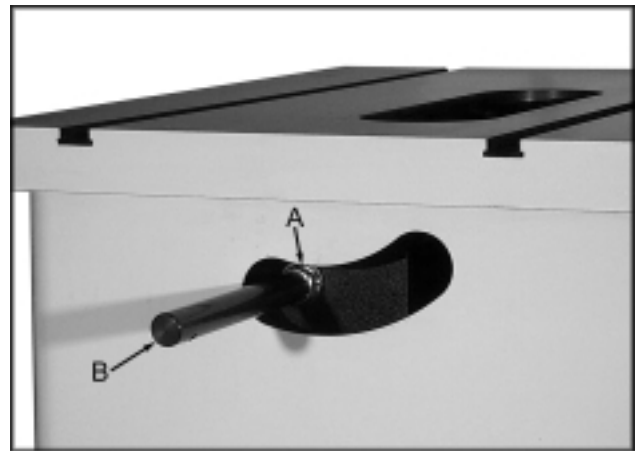

Fig. 5
- **Hardware:** (1) Blade Guard Assembly, (1) Blade Guard Post (1) M16 Nut & Lock Washer & (3) M10 Flat Washers
1. Thread a M16 hex nut and M16 Lock Washer (A, Fig. 5) completely onto the blade guard post (B, Fig. 5).
2. Thread blade guard post into trunnion at the rear of the saw, (Figure 5). Tighten by placing a cross point screw driver through the hole at the end of the post and turning clockwise.